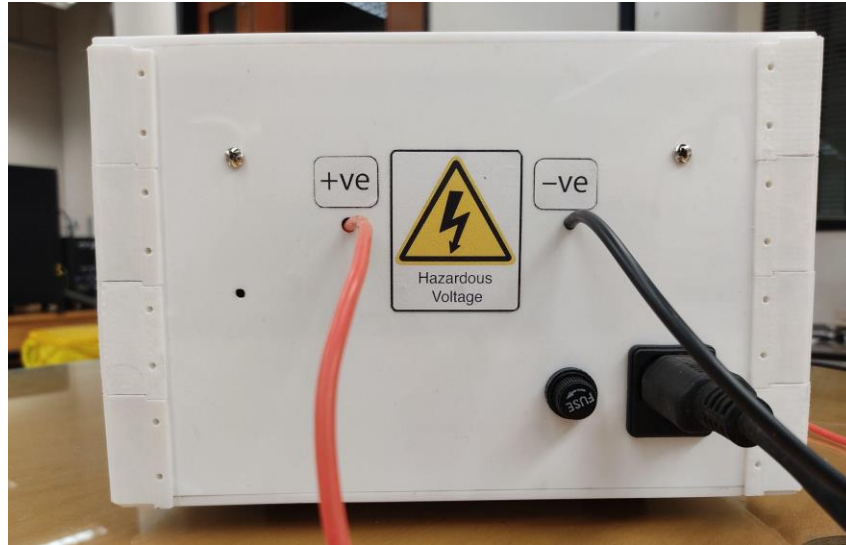

Figure 2: On the backplate of PhysHiVolt, positive and negative terminals are to be labelled along with a warning sign about high voltage.
- Labels on back plate, as shown in Figure 2, for the red live HV wire (+ve) and black ground wire (-ve).